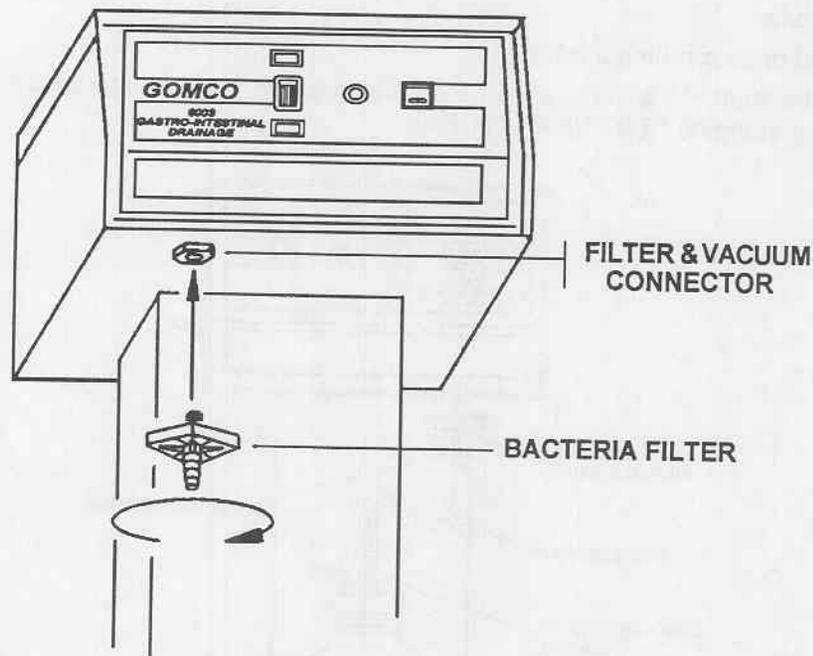

Figure 2-1. Installation of bacteria filter.
(1) *Bacteria filter.* Screw the threaded end of the filter into the filter and vacuum connector as illustrated in figure 2-1.